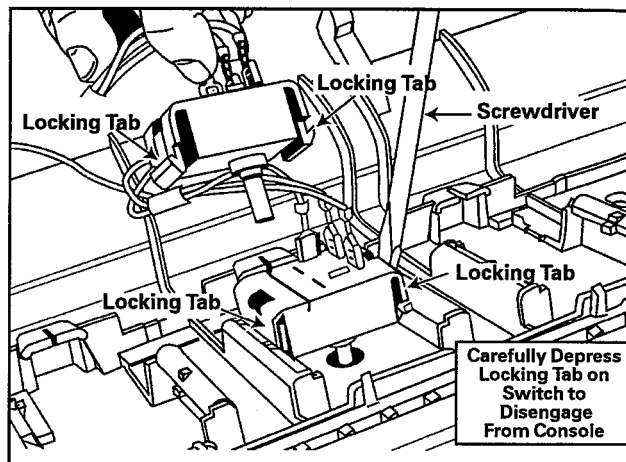

Figure 4-6
1. **To remove** - Depress the locking tab on the switch to disengage the switch from the locking tab on the console. Pivot the switch from the console. (See Figure 4-6)